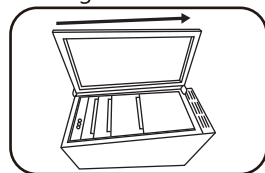

fig 3.4.6
4. Tilt the door(as shown in the **figure 3.4.6**) slightly to detach it.